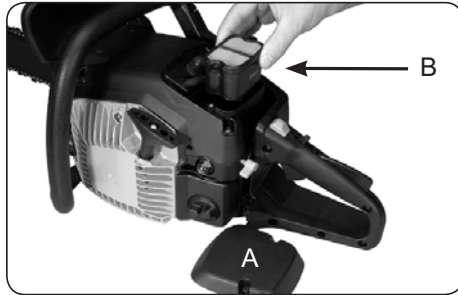

Fig. 14
1. Remove the top cover (A) and lift out air filter (B) (Fig. 14).